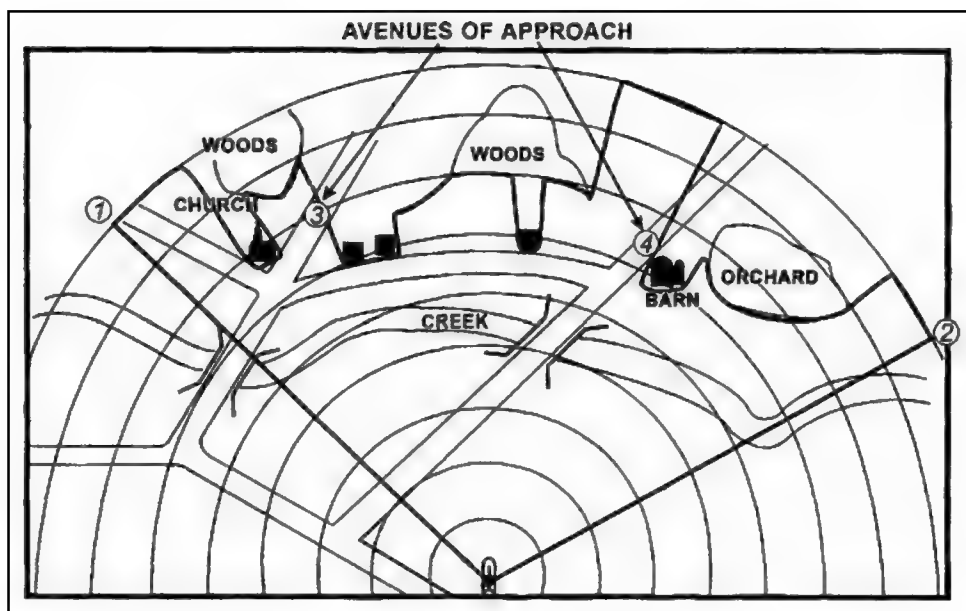

Figure B-7. Avenues of approach.
e. **Avenues of Approach.** Avenues of approach are areas where a target is most likely to appear or most likely to travel. This area can be a natural line of drift or a road. Tracked and wheeled vehicles may or may not use the same AA. Starting from the left and working to the right, number the areas where targets are likely to appear. Start with the number three since the numbers one and two have already been used to mark the left and right limits. Place a circle around each number. Continue until all identified AAs have an assigned number (Figure B-7). **Record the azimuth and distance to each AA in the data section.**